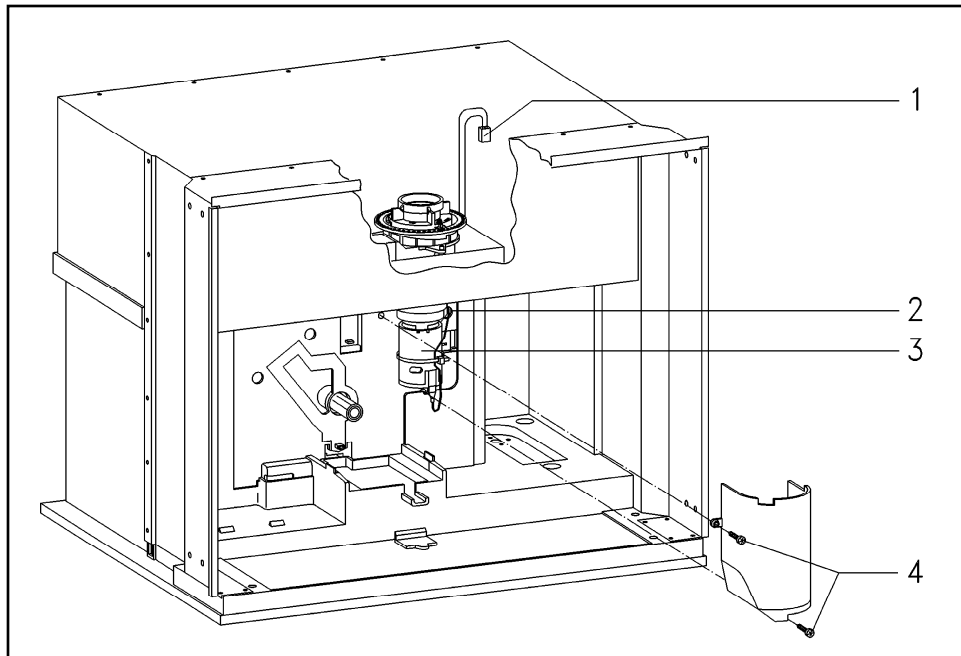

Figure 5-47: Grinder Removal
8. Remove the cover fixing screws (Figure 5-47, Item 4).